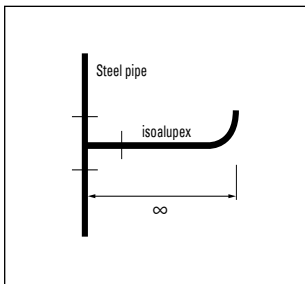

fig. 1
- If tee branches are used, the isoalupex pipe can be connected without any need for relief measures, $L = \infty$. See fig. 1.